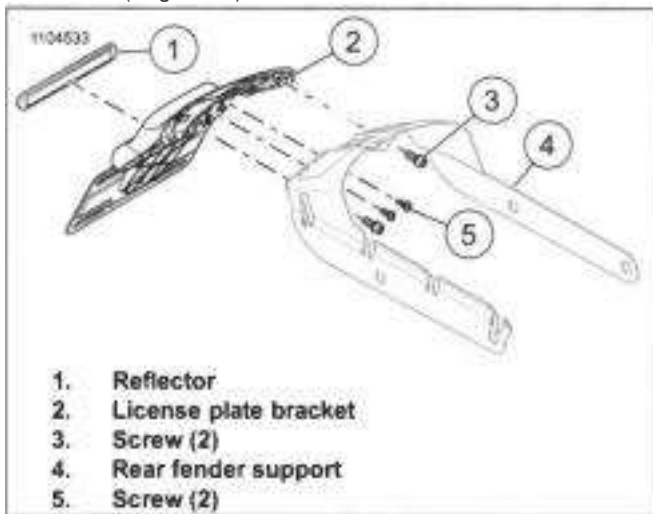

Figure 3-141. Center Mount License Plate Bracket
1. See Figure 3-141. Remove center mounted license plate bracket.
- b. Remove screws (3,5) from rear fender support (4).
- c. Separate license plate bracket (2) from rear fender support.